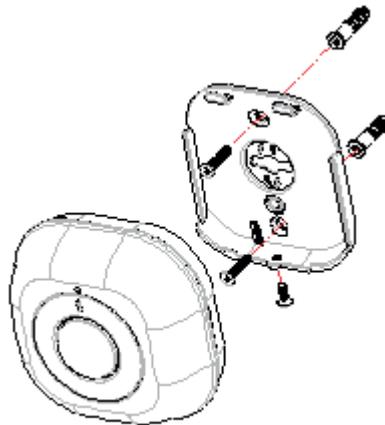
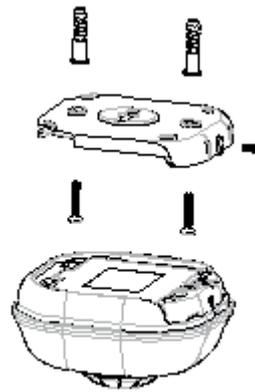
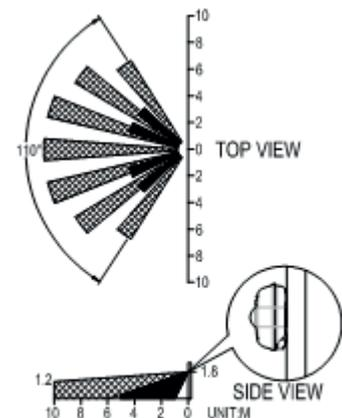
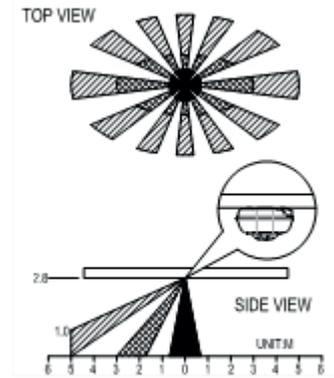

FIGURE 4A
FIGURE 5A
FIGURE 4b
FIGURE 5b
- 4) Decide if the detector is to be wall-mounted (FIGURE 4a) or ceiling-mounted (FIGURE 5a), based on the coverage angles shown in FIGURE 4b and FIGURE 5b. Hold the rear cover in position and mark the two mounting holes. Drill the holes, insert the plastic rawl plugs and screw the rear cover to the wall or ceiling using the screws provided.
The recommended position for wall mounting is at a height of 1.8m (5.91 ft) from the floor. At this height, the optimum detection range is up to 10m (32.81 ft) with coverage range of 110 degrees (FIGURE 4b).
The recommended position for ceiling mounting is at a height of 2.8m (9.19ft) from the floor. At this height, the optimum detection range is up to 5m (16.41ft) with coverage range of 360 degrees (FIGURE 5b).